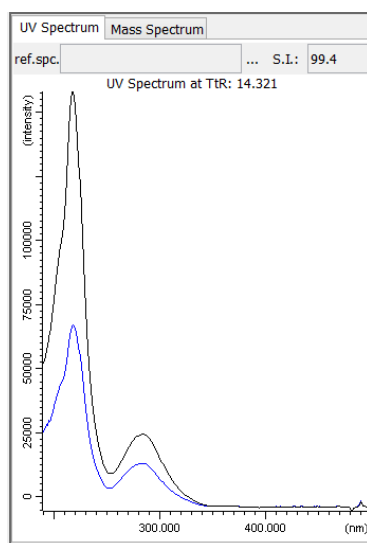

Figure 12.14: Current UV Spectrum vs. Reference Spectrum
2. The reference spectrum will be shown in the Spectrum View as a *blue* line, together with the black line of the current spectrum; while moving the mouse in the Map View, the blue line remains fixed, whereas the black one follows the mouse movements. The text field “S.I.” is constantly updated with the Similarity Index of the two spectra (see a sample in Figure 12.14)